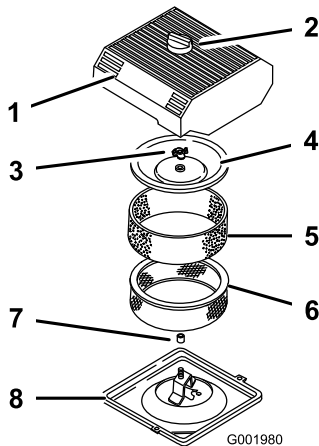

Figure 47
3. Clean around the air cleaner to prevent dirt from getting into the engine and causing damage (Figure 47).
4. Loosen the knob on the air cleaner cover and remove the cover (Figure 47).
5. Carefully slide the foam element off the paper element (Figure 47).
6. Unscrew the cover nut and remove the cover and paper element (Figure 47).
1. Carefully slide the foam element onto the paper air cleaner element (Figure 47).
3. Install the cover nut finger-tight against the cover (Figure 47).
4. Install the air cleaner cover and knob (Figure 47).